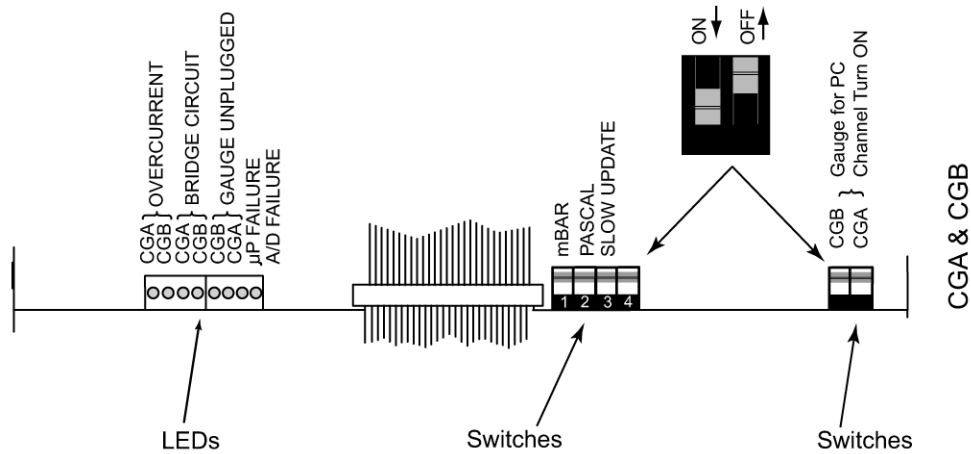

Figure 7-3 Convectron Module PCB - Top View (Controller Cover Removed)
* Refer to Figure 7-3 for component locations.